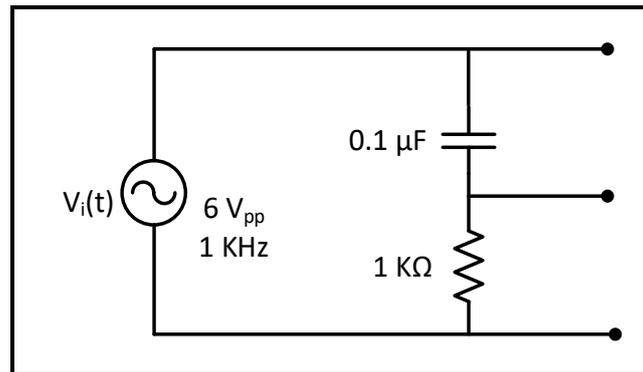

Figure 8.14
2. Connect the circuit of Figure 8.14, set V_{in} to sinusoidal voltage at $6 V_{pp}$, $f = 1 \text{ kHz}$.